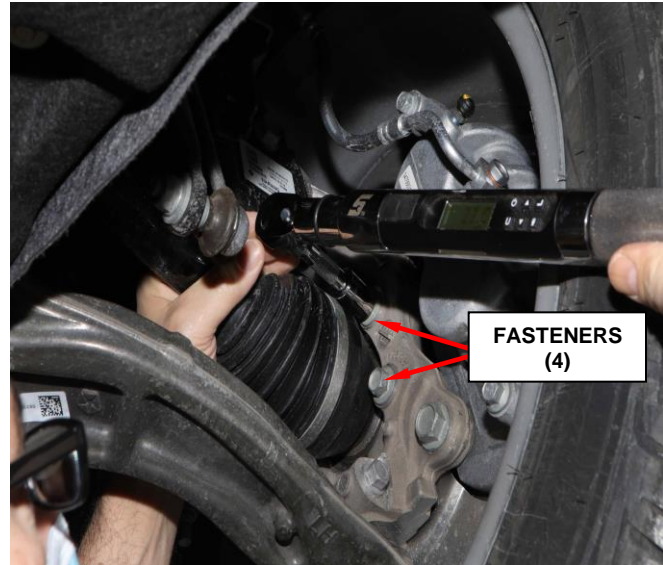

Figure 1 – Hub-to-Knuckle Fasteners
2. Using a torque wrench check all of the front hub-to-knuckle mounting fasteners if they are torqued to 125 N·m (92ft. lbs.) Figure 1.